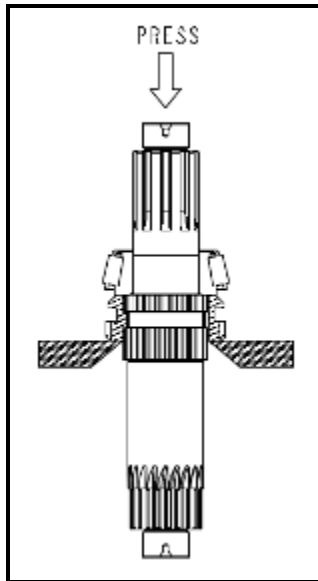

Figure 37
- 9) To remove the remaining bearing cone assembly, slide the clutch collar towards the thrust washer and support under the cone with a bearing separator and press the shaft through the cone. See **Figure 37**.